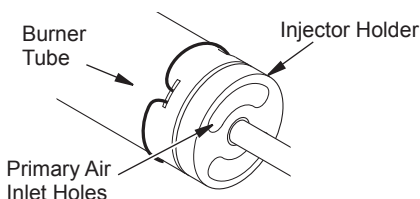

Figure 40 - Injector Holder On Outlet Burner Tube - Rear Burner
2. Inspect burners, pilot and primary air inlet holes on injector holder for dust and dirt (see Figures 40 or 41).